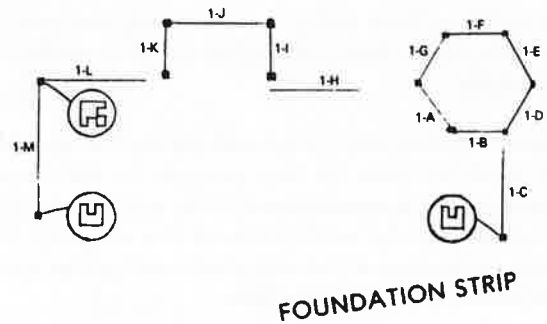

FIG. 26
8. ☐ Assemble tower wall panels 1-D, 1-E, 1-F and 1-G by applying glue to the grooves in the tower corner post subassemblies (B-C/D, D/E, E/F, F/G and G/H-A). Be **absolutely certain** that the 3-way corner posts (B-C/D and G/H-A) are positioned correctly, as shown in Figure 26, so they will engage wall panels 1-C and 1-H. Carefully seat the wall panels **all the way** into the grooves.